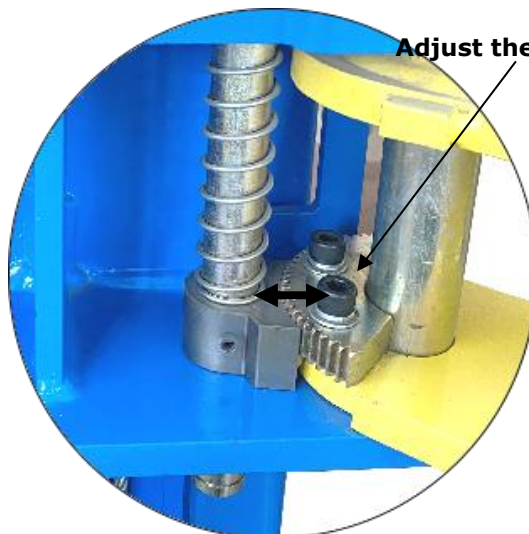

Fig. 37
4. Adjust moon gear and arm lock to make it to be meshed, then tighten the socket bolts of arm lock (See Fig.37.)